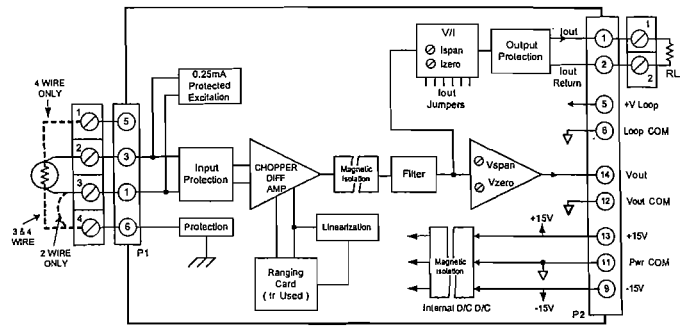

Figure 2.1.9.1 3B34 Functional Block Diagram
1. Connect model 3B34 as shown in Figure 2.1.9.1 with  $R_L = 250\Omega$ . Substitute a resistance standard for the RTD.